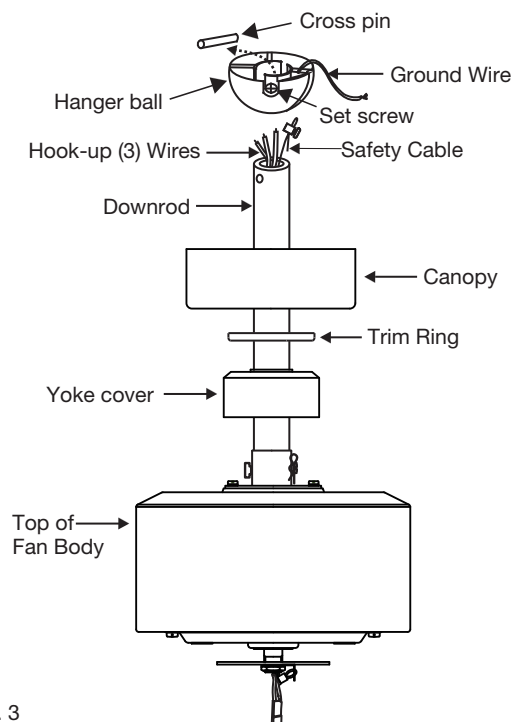

Fig. 3
- 1 Remove one of the three screws on the adapter plate located on the fan motor. Loosen the other 2 screws. (Do not remove) (Fig. 3)
- 2 While holding the LED assembly under your fan, make the polarized plug connections: (Fig. 3)